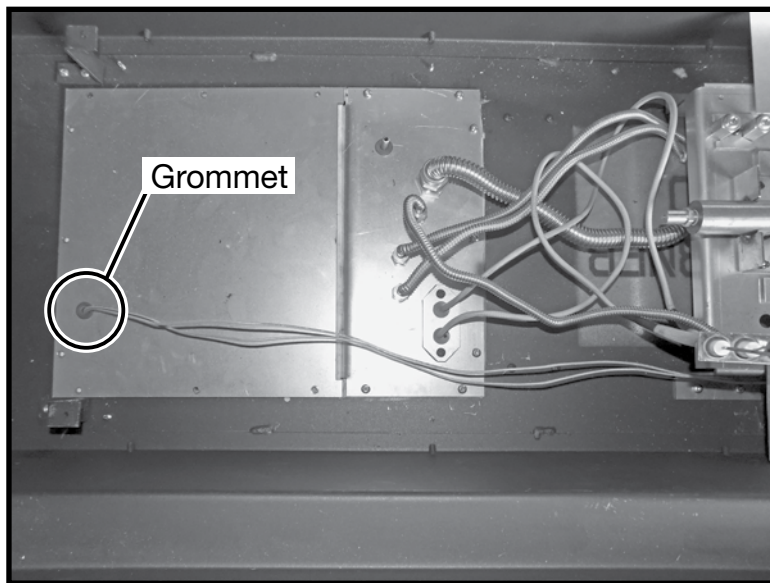

Figure 3: Wires through grommet.
2. Feed the two wires from the right side secondary floor panel down through the left most grommet over the gas control compartment cover (Figure 3).